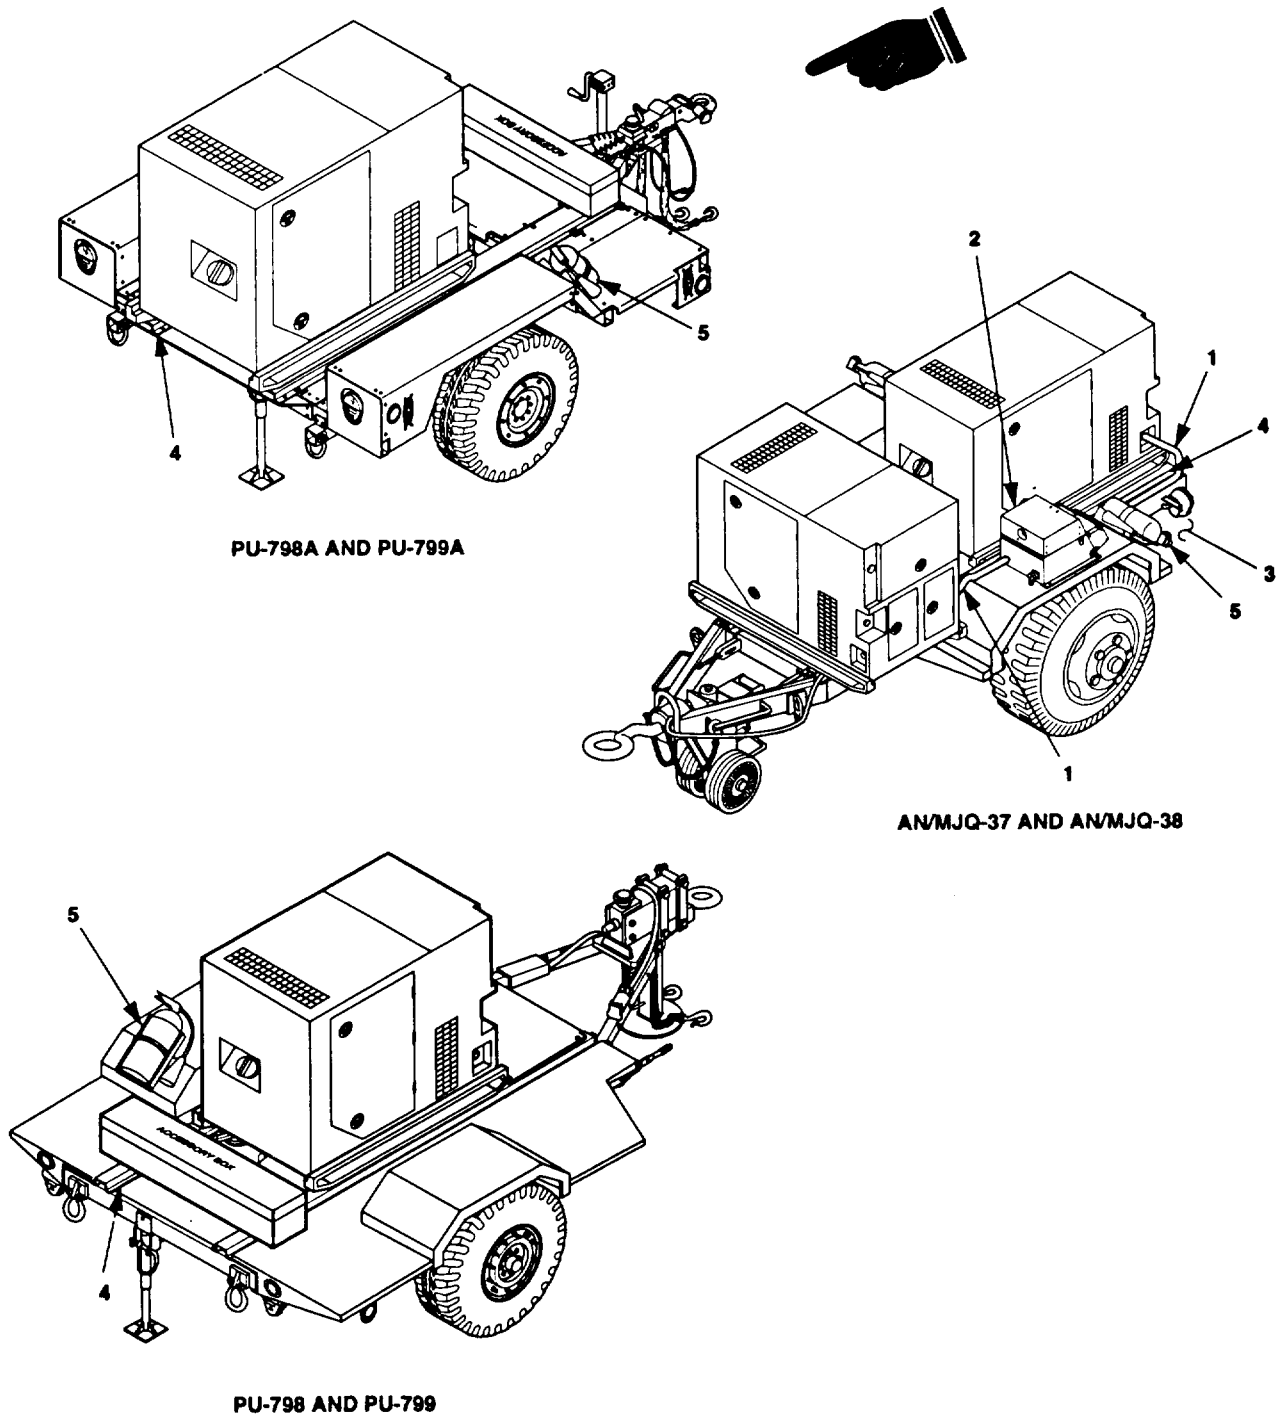

Figure 4-4. Unit PMCS Routing Diagram.
- b. Preventive maintenance is not limited to performing the checks and services listed in the PMCS table. Covering unused receptacles, stowing unused accessories, and other routine procedures such as equipment inventory, cleaning components, and touch-up painting are not listed in the table. These are things you should do any time you see that they need to be done. If a routine check is listed in the PMCS table, it is because experience has shown that problems may occur with that item. Take along tools and cleaning cloths needed to perform the required checks and services. Figure 4-4 is a routing diagram that shows the locations of the items to be
checked/serviced. The callout numbers on figure 4-4 correspond to the numbers listed in the Item No. column of table 4-1.